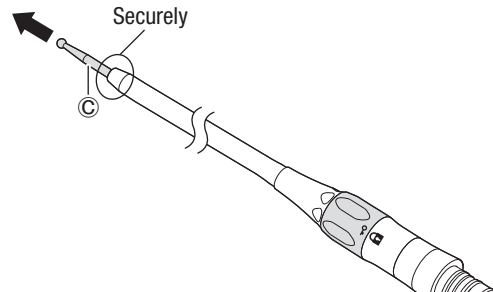

Fig. 4
- 3** Pull the Cutting Accessory **C** lightly to confirm that it is securely connected to the attachment/handpiece (Fig. 4).